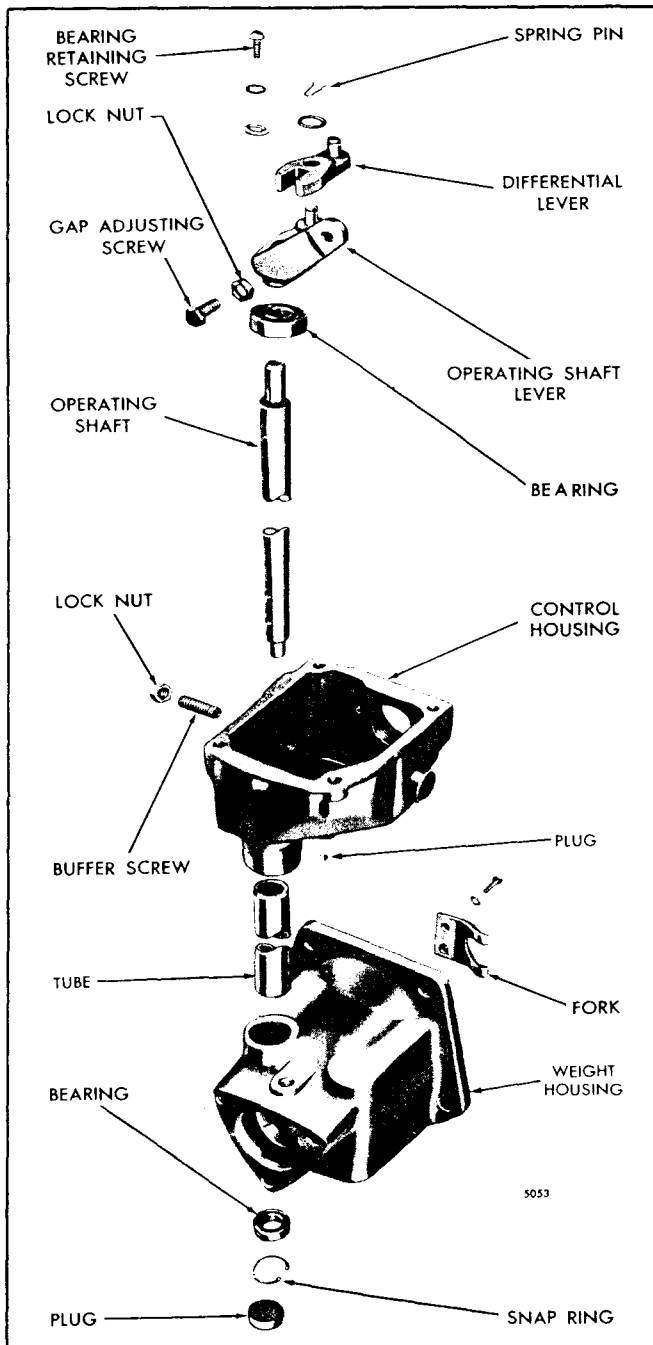

Fig. 9 - Governor Housing and Relative Location of Parts
2. Install the lower governor operating shaft bearing, with the number side facing out, in the weight housing (Fig. 9). Install the snap ring to secure the bearing. Lubricate the bearing with engine oil.
9. Place the differential lever (Fig. 9) over the pin in the governor operating shaft lever. Secure the lever in place with a washer and spring pin.